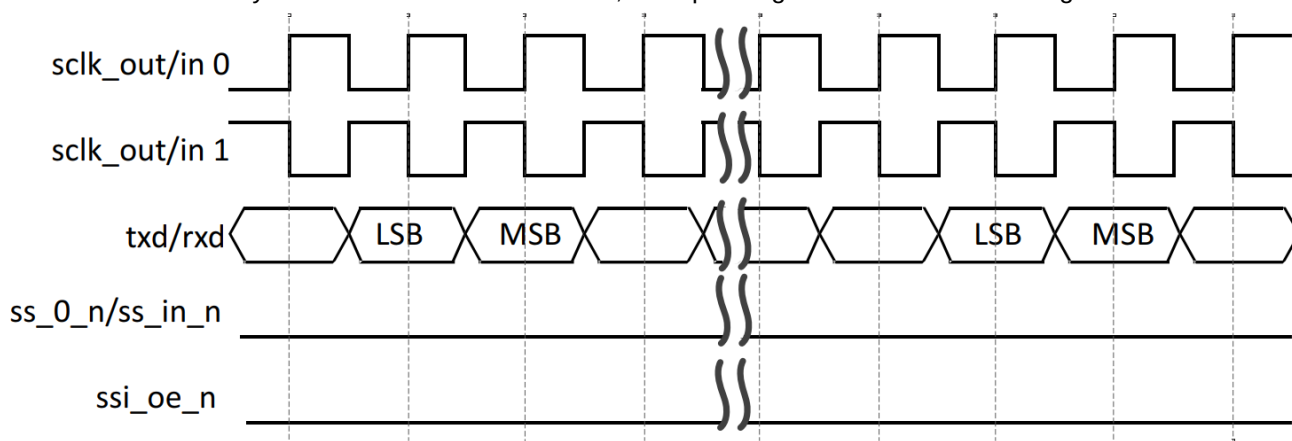

Figure 12-3-4 Serial Format Continuous Transfers ($SCPH = 0$) when CTRL0.SSTE = 0
- When CTRL0 field of the SSTE register is programmed to 0, the slave select signal stays low and the serial clock runs continuously for the duration of the transfer; this operating mode is illustrated in Figure 12-3-4.